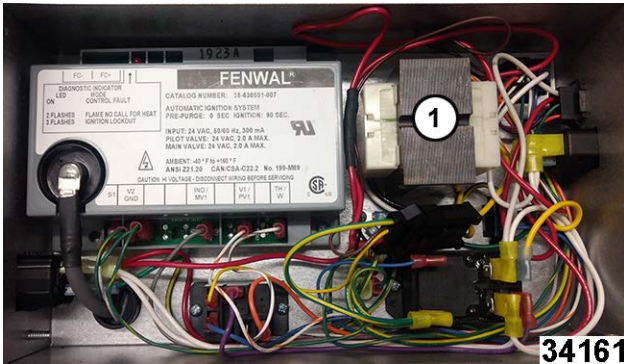

Fig. 34
3. Disconnect transformer assembly (1, Fig. 34) wires at harness plug.